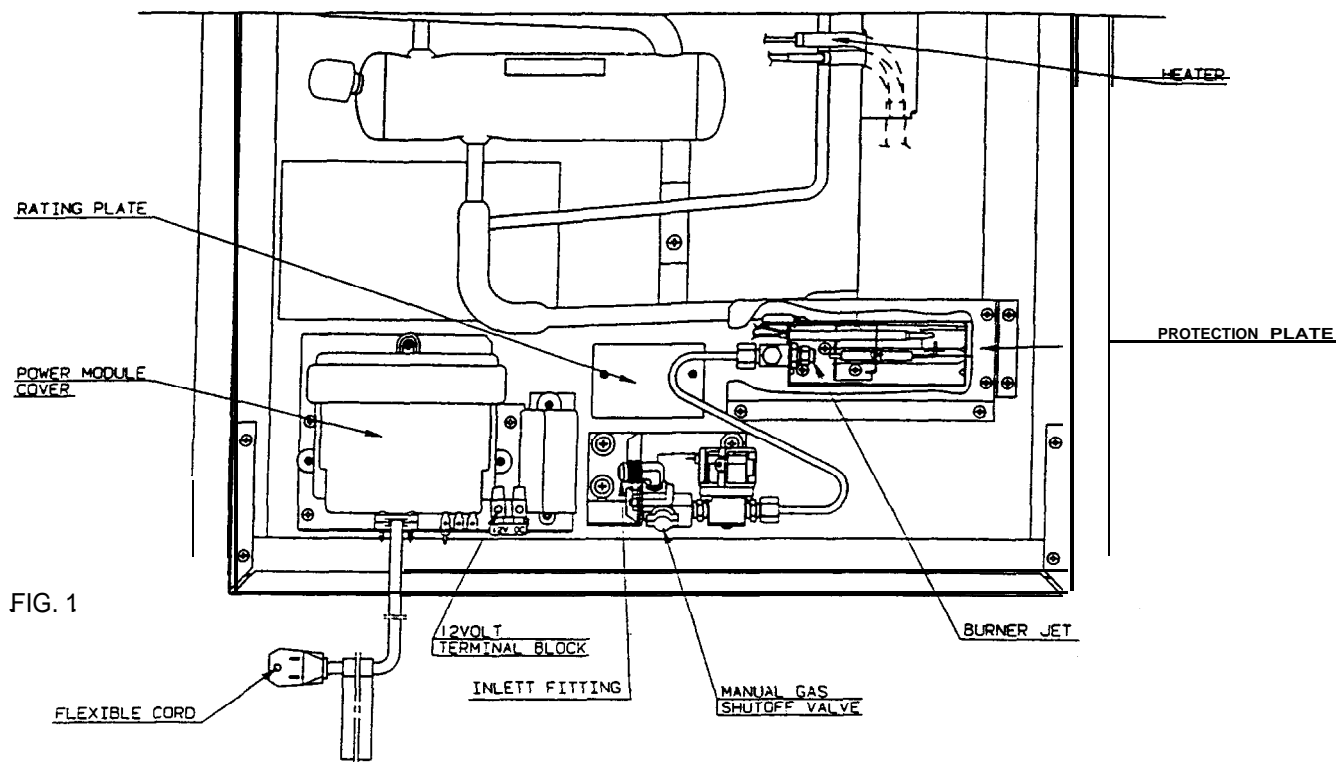

FIG. 1
All refrigerator models require a 12 volt DC supply (even though 2-way models are designed to operate on 120 volts AC and gas, a 12 volt DC control is required to maintain the automatic energy system). The DC lead connections are at terminals located at the rear of the refrigerator. (see FIG. 1). One lead is marked positive (+) and the other negative (-). Correct polarity must be observed when connecting to the DC supply.
2. Check that the gas flame is lit and the gas mode indicator lamp (C) is on.
4. Wait for one minute. The check indicator lamp (E) should now be lit and the gas mode indicator lamp should be off.
5. Remove protection cover (see FIG. 1) and open the gas valve. Test that no gas comes through the burner jet. Use soupy water, rinse afterwards with fresh water. Be careful not to damage the burner jet, replace cover.